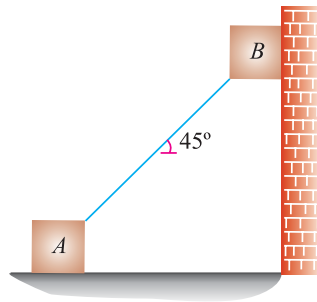

Fig. 9.7.
**Example 9.5.** Two identical blocks of weight  $W$  are supported by a rod inclined at  $45^\circ$  with the horizontal as shown in Fig. 9.7.